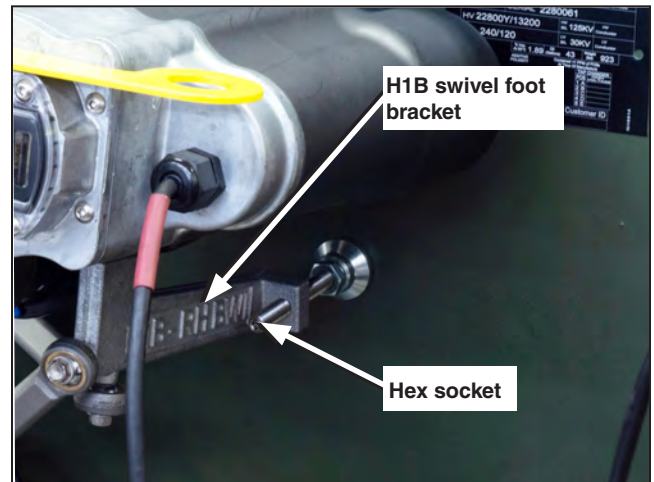

Figure 23. The hex socket at the top of the H1B bushing well interrupter swivel foot.
- STEP 1.** The hex socket at the top of the swivel foot is keyed for an Allen wrench. Tighten the swivel foot until it is “hand tight” against the transformer wall. See Figure 23.